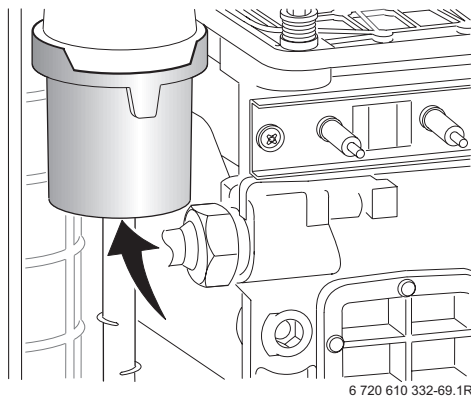

Fig. 51
- ▶ Unscrew the two fixing screws and carefully remove the electrode assembly. Refer to fig. 51.